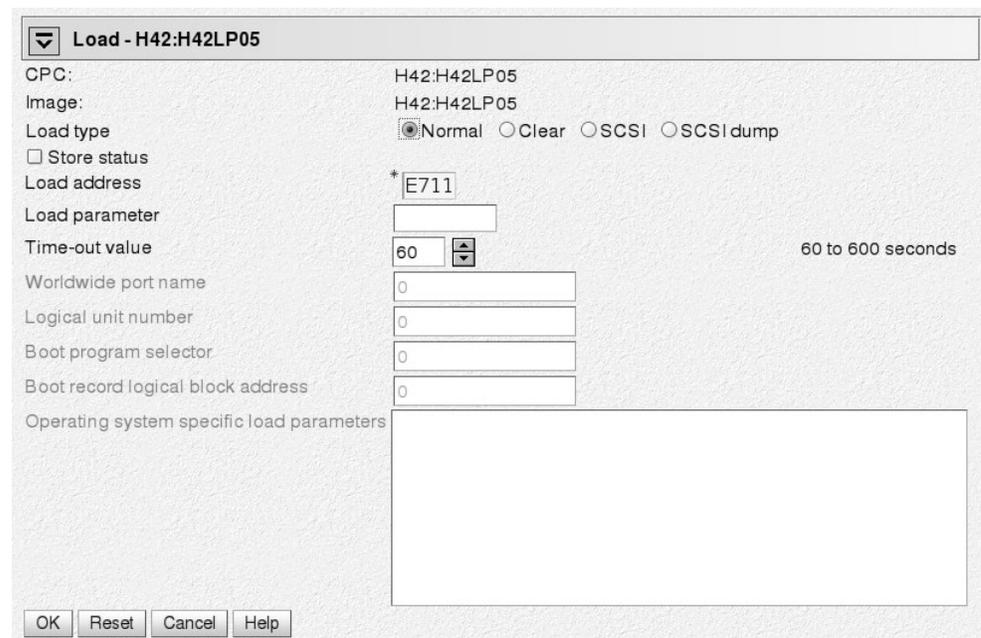

Figure 64. Load panel for booting from tape or DASD
- a. Select **Load type** "Normal" (see Figure 64).
- a. Select **Load type** “Normal” (see Figure 64 on page 375).